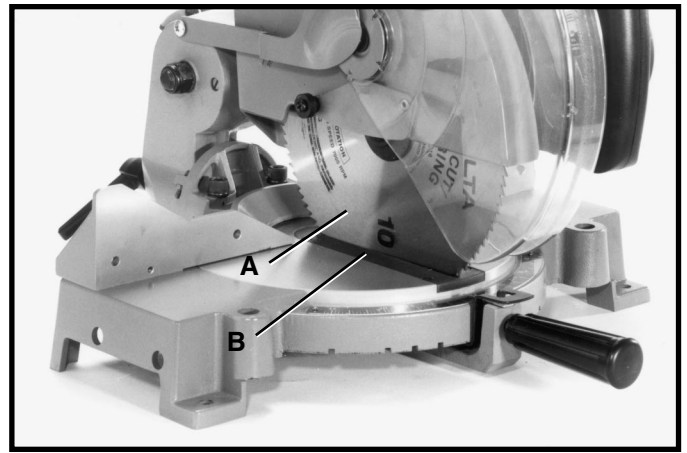

Fig. 25
3. Lower the cutting arm. The saw blade (A) Fig. 25, should be parallel to the left edge (B) of the table insert opening.
4. If an adjustment is necessary, loosen two screws (C) Fig. 25, and move the cutting arm until the blade is parallel with the left edge (B) of the table insert opening. Then tighten two screws (C).